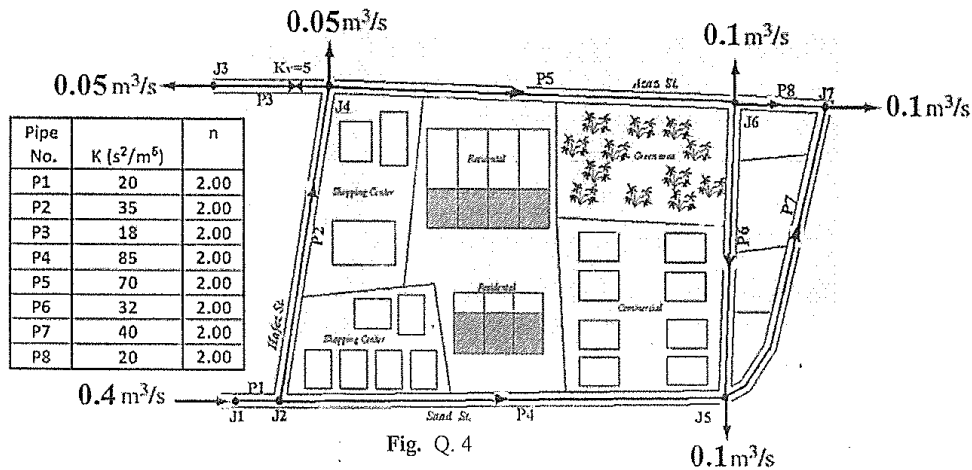

Fig. Q. 4
- 4- A water distribution network for a town zone is shown in Figure Q. 4. All network elements are at the same elevation. Analyze the network for pipe discharges using Hardy-Cross methods for just two iterations. If the piezometric head at junction J1 is 30 m, determine the piezometric head at junction J6 (neglecting velocity heads).
b) The shown network (Fig. Q. 4-b) consists of 4 pipes and 3 nodes. A source pump and one reservoir supply the network. The pump characteristics and pipes data are tabulated below. Neglecting local losses, determine the following: